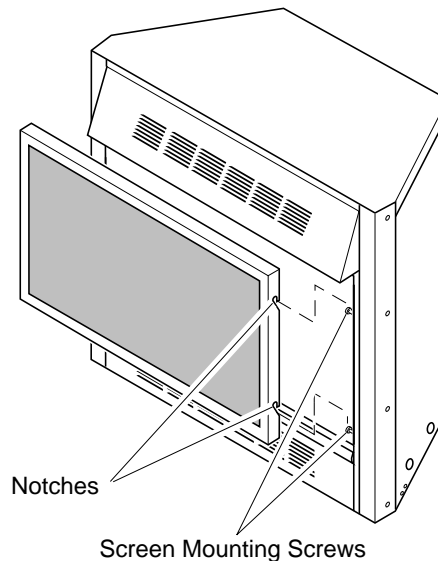

Figure 7 - Removing Fireplace Screen
1. Remove fireplace screen (see Figure 7).